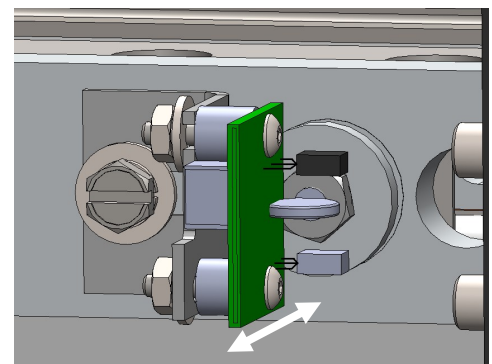

Figure 4-12
11. While one person pushes in the Pressure Bar all the way, the other person will loosen the two Lock Nuts holding the Circuit Board to the Anti-Jam Mounting Bracket, see Figure 4-12.